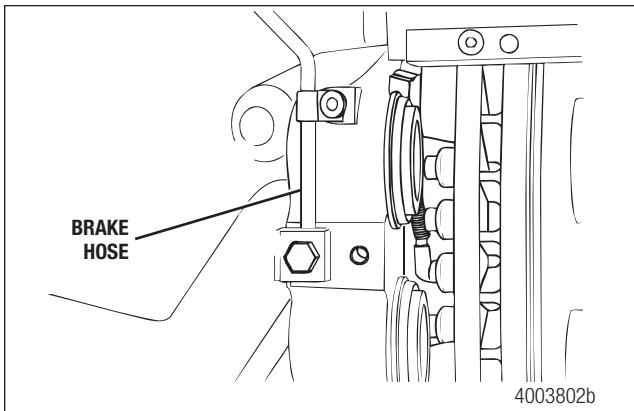

Figure 6.8
4. Install the brake hose. Figure 6.8.